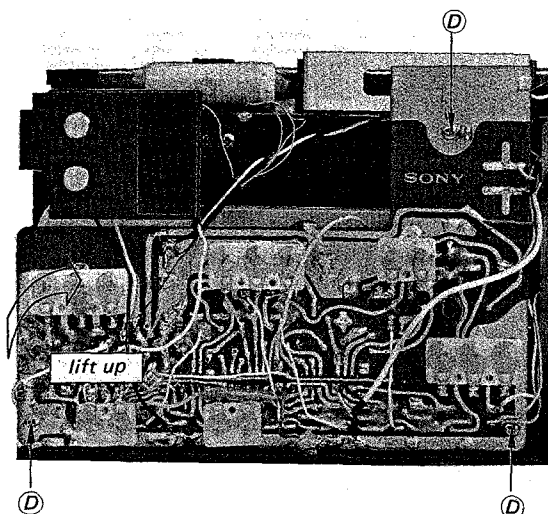

Fig. 2-5 CP circuit board removal, steps 3 and 5
3. Remove the three screws labeled (D) in Fig. 2-5.
5. Lift up the CP circuit board as shown by the arrow in Fig. 2-5.